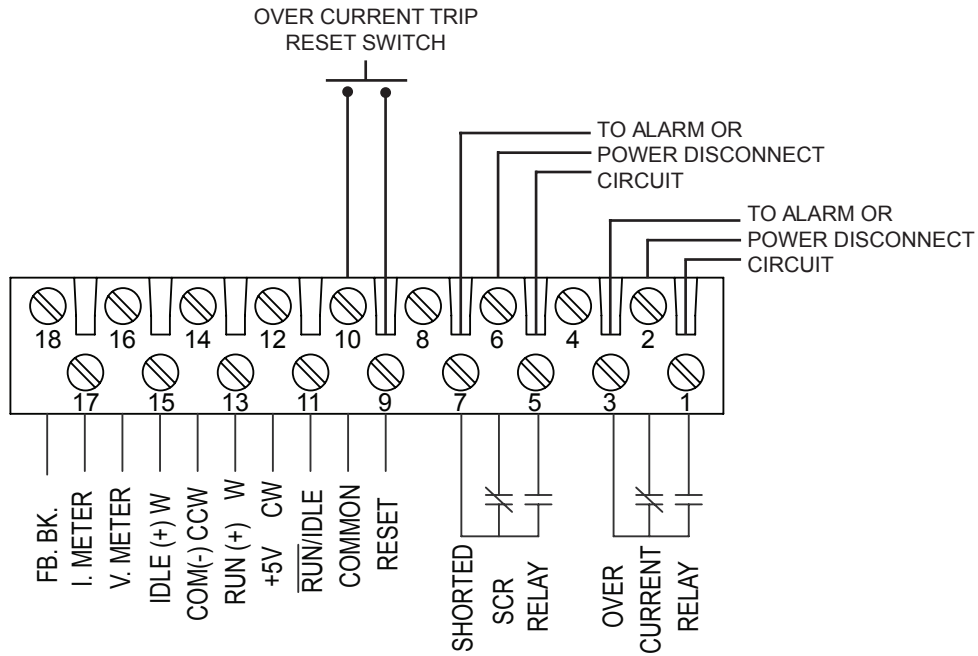

Figure 7. Voltage or current command connections
OVER CURRENT TRIP INDICATOR:	This amber LED, when lighted, indicates the over current limit has been exceeded and the Over Current Trip relay has been energized. The SCR's will be prevented from turning on while this circuit is active. Reset by closure between Pins 9 & 10 or momentary power interruption. See Figure 7 .
O.C.T. & SHORTED SCR RELAY CONTACT RATINGS:	The Over Current Trip, and the Shorted SCR circuits, each control a relay which has form C contacts rated for 5 Amps @ 120Vac. The contacts are available on the command connector. See Figure 7 .
Connections to the form C contacts of the over current relay are shown in Figure 7. The contacts are rated for 5 Amps at 120 Vac and are intended for activating an alarm and/or removing power from the system by operating a contactor or a circuit breaker.
Connections to the 5 Amp 120 Vac form C contacts are shown in Figure 7. This relay energizes if an SCR fails in the shorted mode and is intended to activate an alarm and/or cause power to be removed from the system by operating a contactor or a circuit breaker.